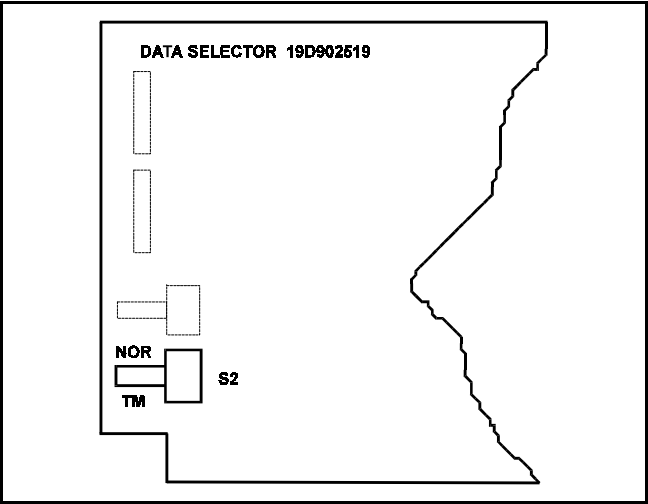

Figure 1 - Data Selector Module, S2 Location
- 1. Set test enable switch S2 on the 150 baud digital selector board to the TM (test mode) position and verify that the red "test" LED DS1 is ON. See Figure 1.